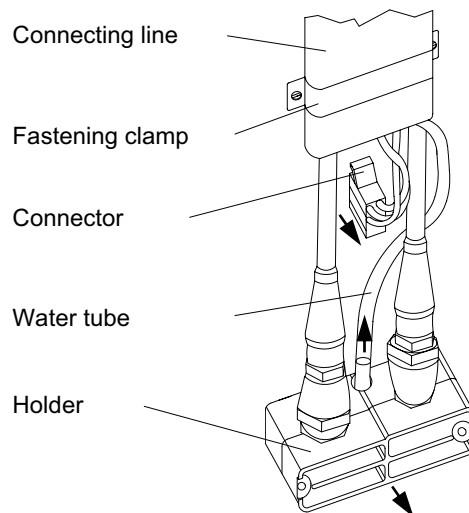

Fig. 13
5. Unscrew the fastening clamp of the connecting line. See Fig. 13.